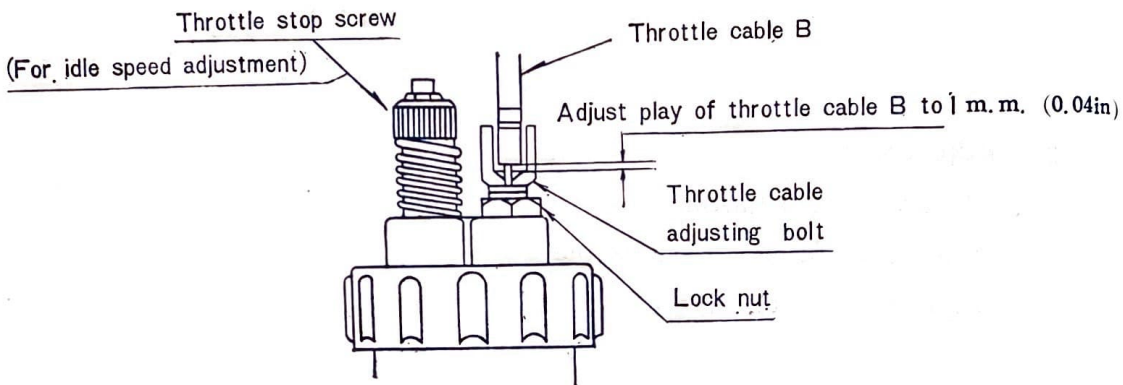

Fig. II-3-5
- a. To adjust the throttle cable free play with the engine at idle, begin by removing all slack from throttle cable B in Fig. II-3-5.